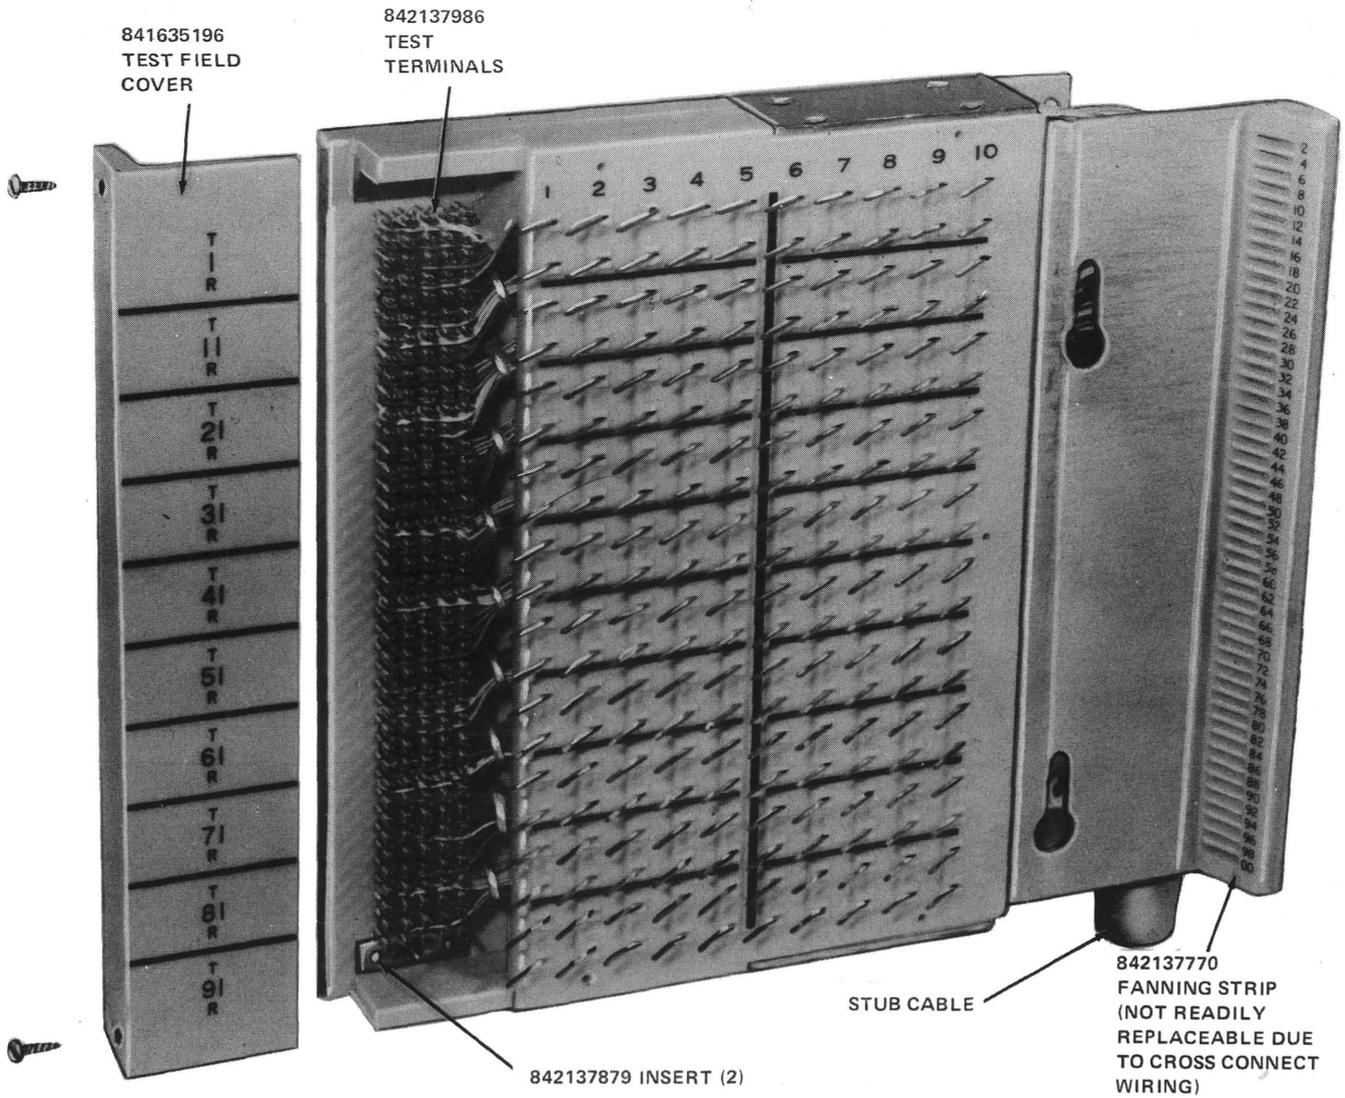

Fig. 3—305-Type Connector—Test Field Cover and Terminal Guard Removed
5.01 841635196 Test Field Cover (Fig. 3)
5.04 842137879 Insert (Fig. 3 and 4) The 100-pair M test connector attaches to the 305-type connector by means of two thumbscrew fasteners which engage threaded inserts at the top and bottom of the test contact field. Replace the threaded inserts as follows:
- (1) Facing the front of the connector, remove the test field cover as directed in paragraph 5.01.
- (2) Observe the mounting of the inserts. At the left side of the connector, remove and retain the two flathead screws which secure the insert in position.
- (3) Remove the insert carefully to prevent a short in the test terminal field. See Fig. 3.
- (4) Install the insert and secure with the two screws removed in Step (2).
- (5) Replace the test field cover as directed in paragraph 5.01, Steps (3) and (4).
7.01 To repair a broken or damaged wire conductor leading from the moisture plug of the stub cable and through the mounting bracket of the 305-type connector (Fig. 3), proceed as follows: